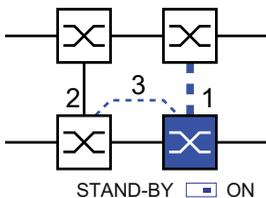

Figure 36: Two-Switch coupling with control line
- Select "Two-Switch coupling with control line" by means of the dialog button with the same graphic as below (see figure 36).